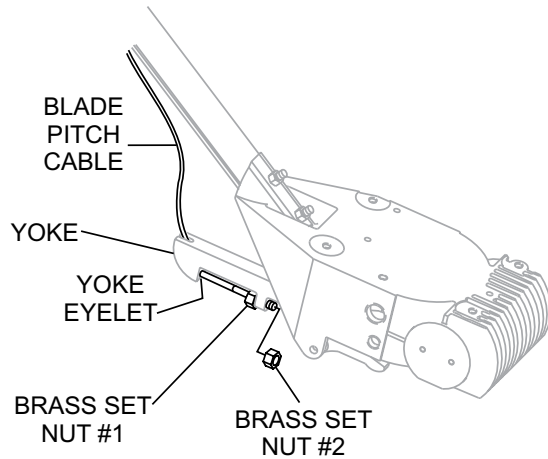

Figure 13. Pitch Cable Yoke Attachment
- Insert the cable end through the yoke eyelet (Figure 13). Tighten brass set nut #1 by hand to remove all the slack from the cable.